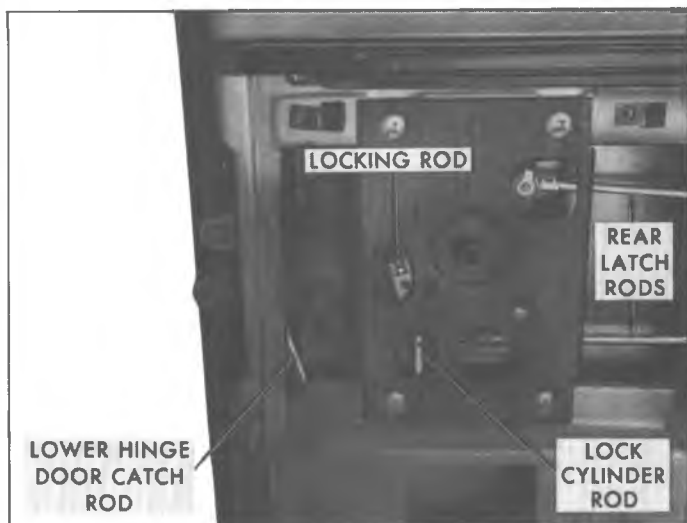

Fig. 25G—Sliding Door Front Latch
4. Disconnect the following rods from latch, shown in figure 25G.
3. Disconnect rear latch rods from front latch assembly, shown in figure 25G.